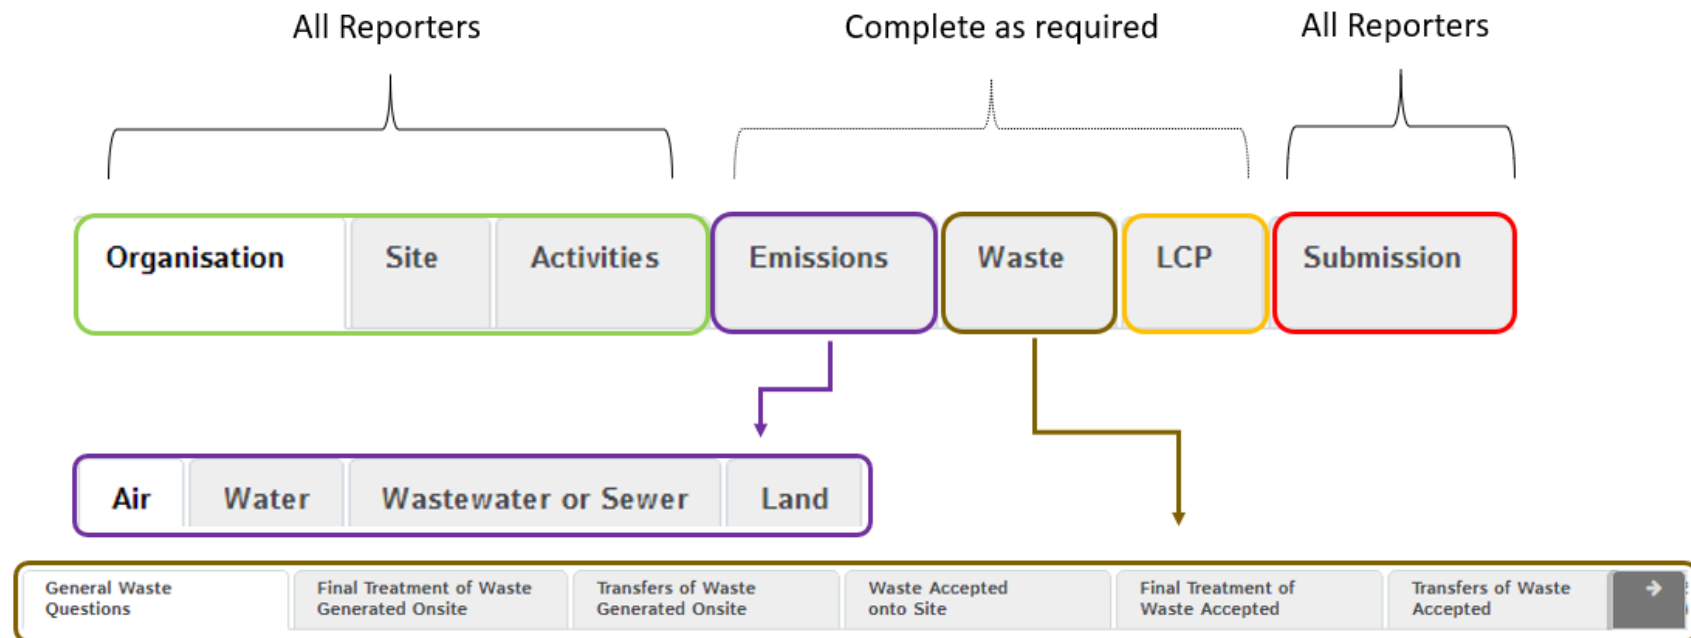

Fig 1. Sections of the EPR.
- Each Section of the EPR requires a number of “steps” to be carried out. These have been summarised in a graphic to assist reporters in understanding the structure and requirements of the online EPR (Figure 1&2).
- In addition to the seven sections or “tabs” that allow you to navigate between the main sections of the EPR, two tabs (Emissions and Waste) have several sub-tabs each (Figure 1).